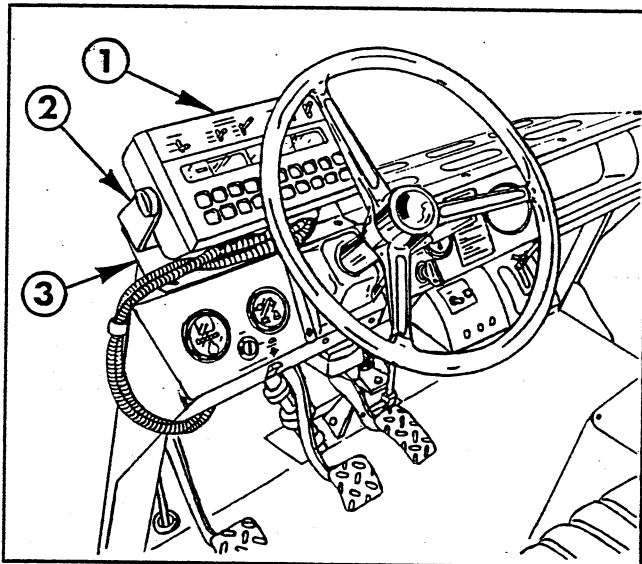

FIG. 6
15. Remove (15) screws and washers securing front hood to vehicle frame and remove hood.
16. Temporarily mount the console mounting bracket to the upper dash support using two of the earlier removed machine screws and washers (FIG. 6).
17. Using (2) 1/4" x 1" hex head cap screws, lock washers, and hex nuts, secure the "U" shaped console bracket to the metal console mounting bracket and mount the control console within the "U" shaped bracket using the (2) mounting knobs (FIG. 6).